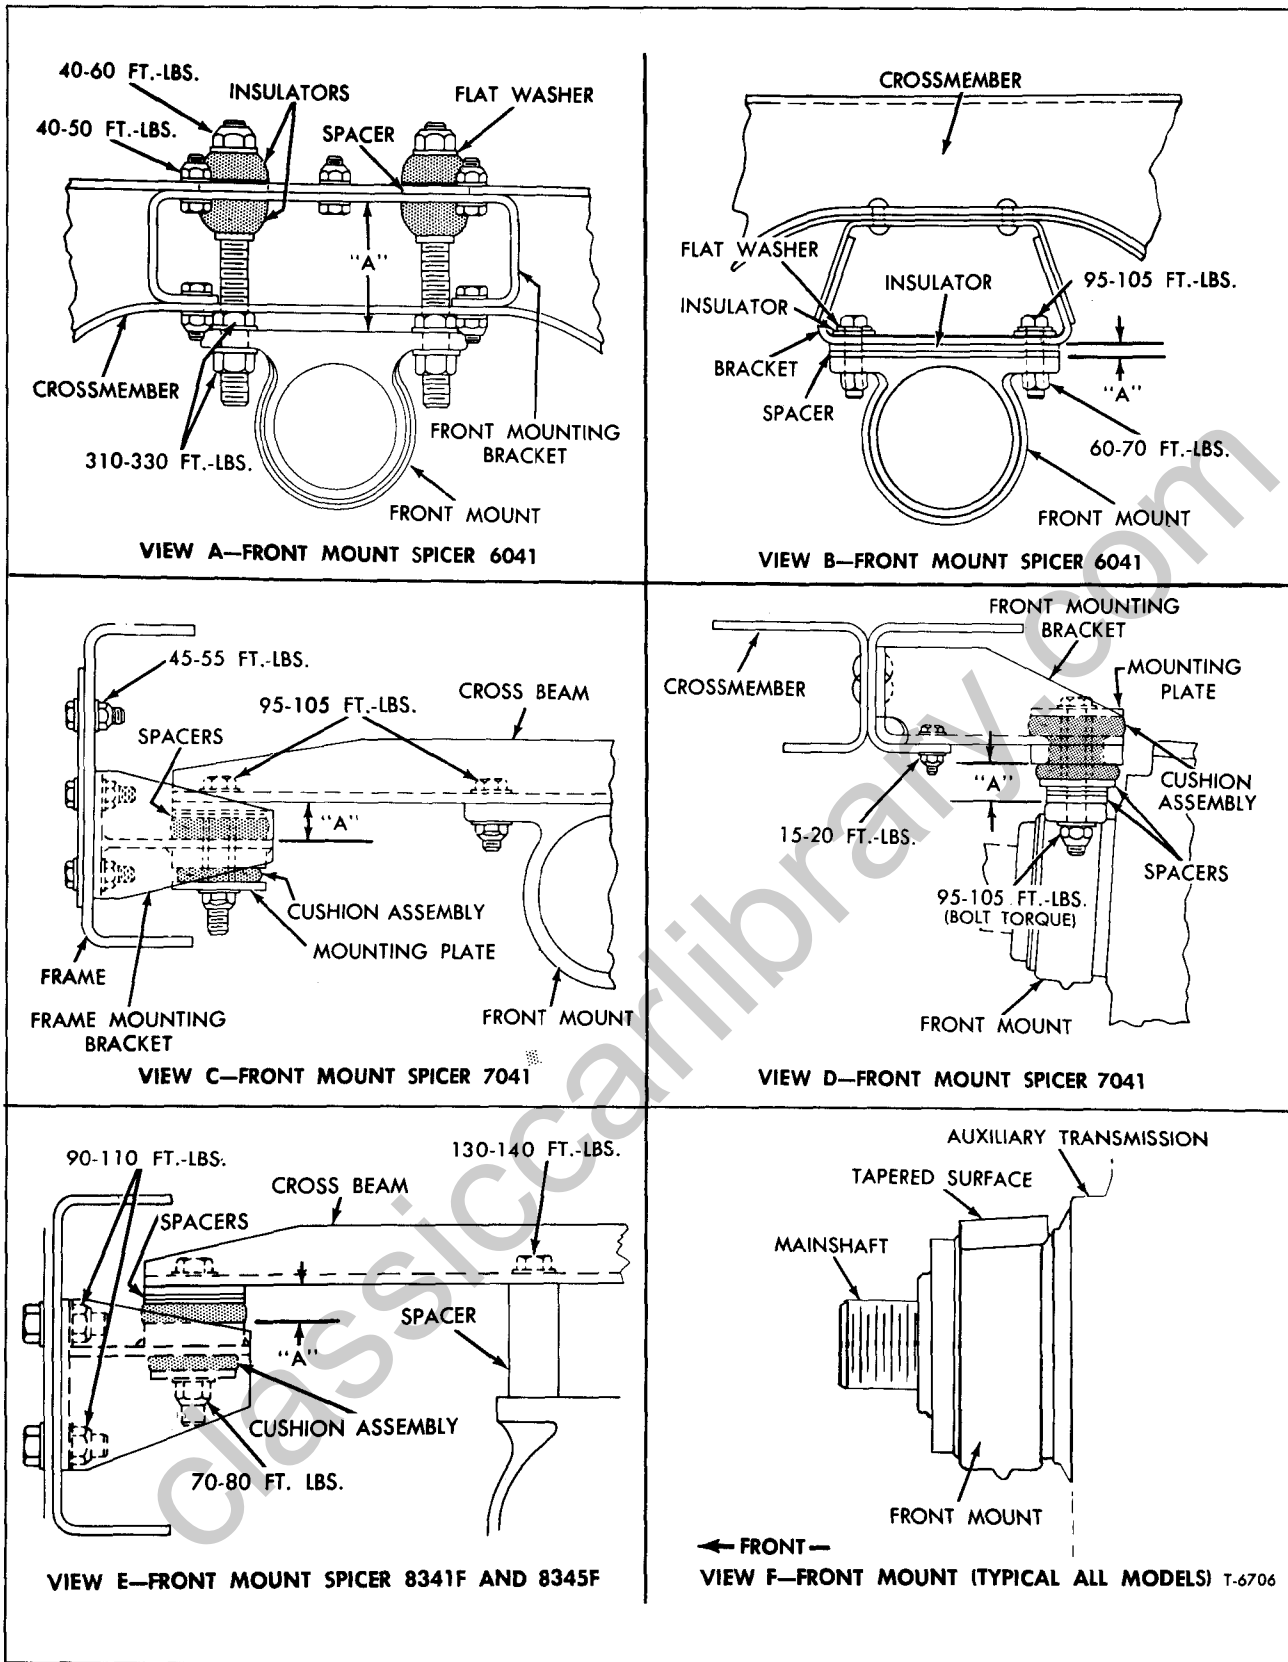

Figure 3—Auxiliary Transmission Front Mountings
INSTALLATION (Refer to Figs. 3 and 4)
1. Be sure the tapered surface of the auxiliary transmission front mount faces the front of the vehicle as shown in View F, figure 3.
3. Tighten attaching parts to proper specifications as shown in figures 3 and 4.